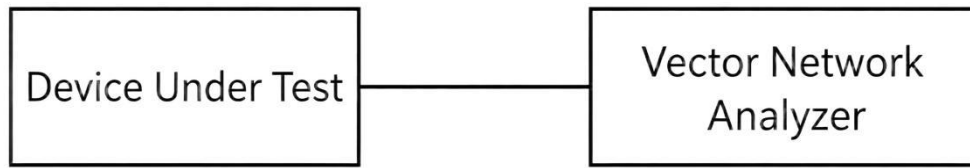

Figure 5 Block Diagram of the Test Setup for Electrical Return Loss (S11)
- a) Connect the test system as shown in Figure 5.